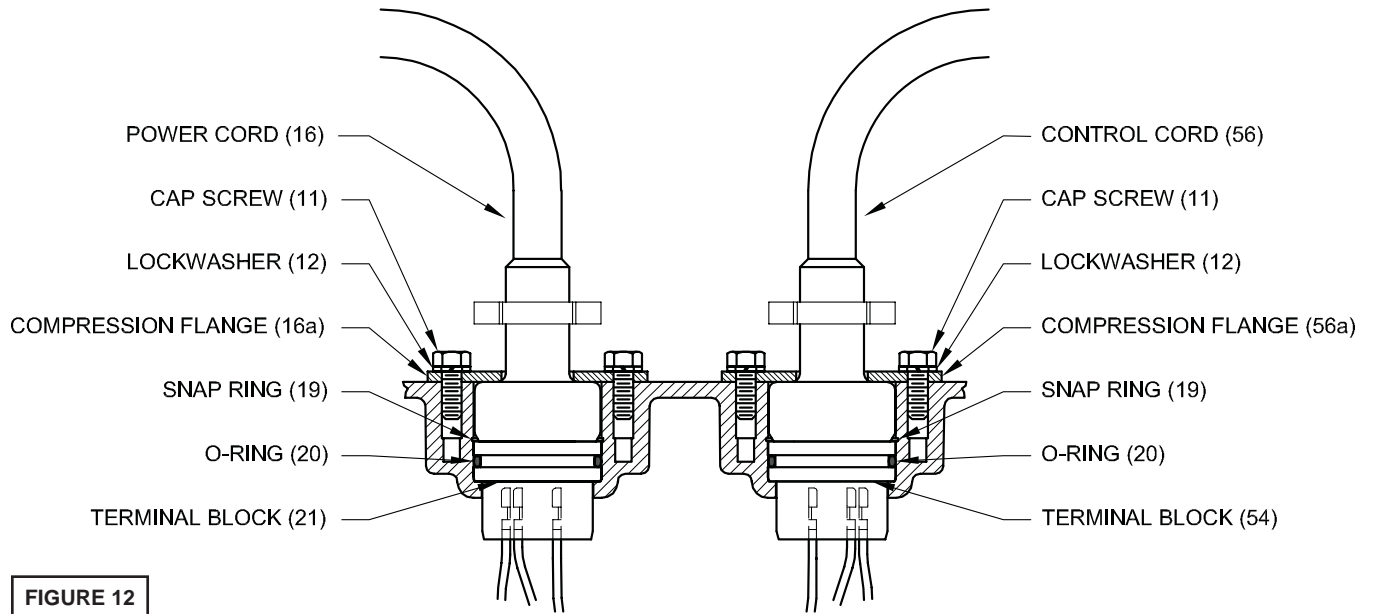

FIGURE 12
Check power cables (16) and control cable (56, if used), for cracks or damage and replace if required (see Figure 12). Make internal wiring connections which are independent of the terminal block as shown, using connectors (48) and wire assemblies (49) as required. Do not use wire nuts. Slip motor leads and ground wire through fiberglass sleeve. Lower motor housing (6) down onto seal plate (5) while aligning holes and stringing motor leads through the cable entry bore(s). (Slipping cords inside a 1 ft. length of .5" conduit makes this easier). Place socket head cap screws (47) through seal plate (5) into motor housing (6) and torque to 60 in-lbs. Reconnect motor and optional control leads to the underside of the terminal block(s) (21), (54 optional) as shown in Figure 13. Note that the pins are numbered underneath the terminal block. Place o-ring (20) into groove in terminal block and lubricate with dielectric oil. Press the terminal block (21) into the housing so